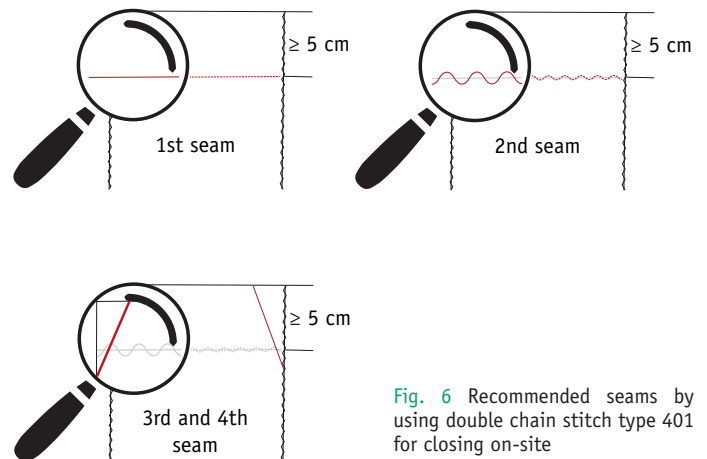
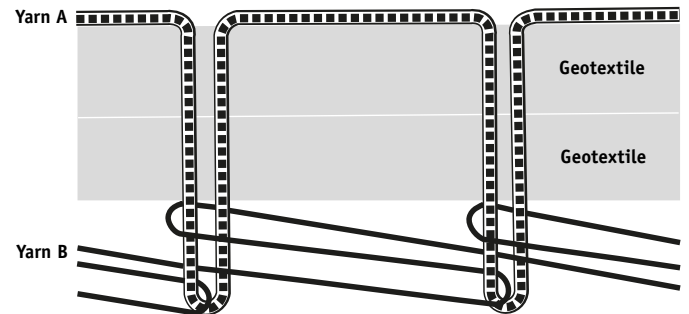

Fig. 6 Recommended seams by using double chain stitch type 401 for closing on-site
Fig. 7 General cross section of a double chain stitch type 401
15.2 The recommended seam type for GSC closure is the double chain stitch type 401 (see Figure 7).
15.4 For the preparation of the sewing area, the geotextile at the open end of the GSC has to be pulled together, so that the nonwovens are laid homogeneous and parallel one next to the other over the complete GSC width and a height of approx. $\geq 10 \text{ cm}$ (see Figure 6).
15.6 The recommended position of the seams is shown in Figure 6. A complete closure of the geotextile sand filled container Secutex® Soft Rock is requirement.
17.3 To be able to prove the homogeneous seam quality, two different yarns with different colors are recommended. For the Secutex® Soft Rock R product range a white or red PES yarn spool as yarn A and a black PES yarn spool as yarn B (compare Figure 7) is recommended to be used. For the Secutex® Soft Rock RS product range a green PE yarn spool as yarn A and a blue PE yarn spool as yarn B is recommended to be used.
18.1 The yarn quantity for the on-site closure has been exemplarily determined for a type 401 (see Figure 7) and in consideration of the closing technique (see Figure 6).
18.2 The yarn quantity for the on-site closure (here seam 1 – 4) of one geotextile sand container Secutex® Soft Rock R 601 is determined exemplarily in accordance with Figure 6 and Figure 7 and is documented in Table 1 taking an assumed stitch width of 0.5 cm into account.